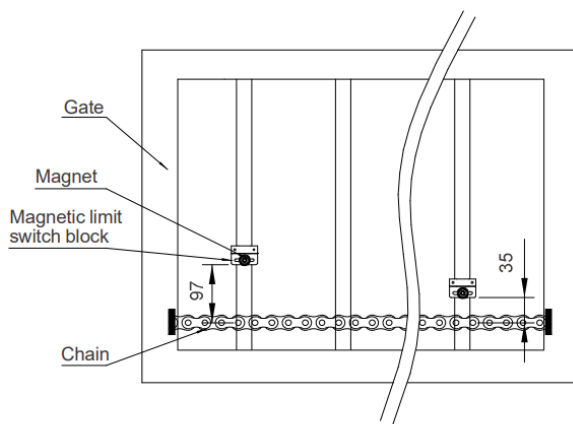

Figure 13
- Use the manual release key to unlock the gate opener and manually move the gate to the predetermined position. Fix the magnetic limit switch block and close the clutch. Test its operation and adjust the position of the magnetic limit switch block incrementally until the gate reaches the desired open and close limit locations. Installation of magnetic limit switch block is shown in Figure 13 and 14 (97 mm = 3.82 in., 35 mm = 1.38 in., 20 mm = 0.79 in.):